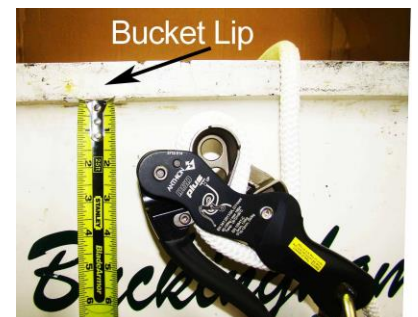

**Fig. 8**
- Once the first user is off the descent line weave the rope through your descender as shown in Fig. 8.
- Make sure a ‘figure 8’ stopper knot is tied in the free end of the 1/2” diameter rope (Fig. 7).
- Start by feeding the rope (the end with the ‘figure 8’ stopper knot) into the storage bag. This ensures the rope will not become tangled when the bag is dropped from the bucket.
- Weave the rope through the descender as shown in Fig. 8.